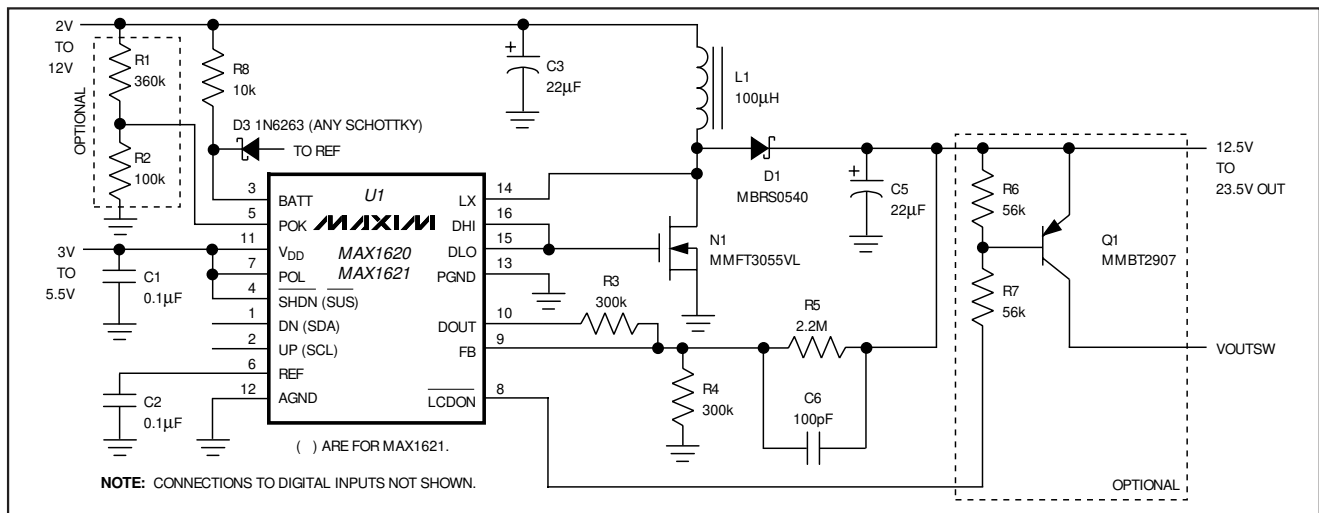

Figure 4. Typical Operating Circuit—Positive Output
To select a positive output voltage, tie the polarity pin (POL) to V_{DD} and use the typical boost topology shown in Figure 4. FB regulation voltage is 1.5V. For optimum stability, V_{OUT} should be greater than 1.1 (V_{BATT}).
To prevent uncontrolled boosting when the output is disconnected, the feedback resistors must sense the boosted voltage rather than the output of the \overline{LCDON} switch (Figure 4).
Separate voltage sources can supply the inductor (L1) and the IC (V_{DD}). This allows operation from low-voltage batteries as well as high-voltage sources because chip bias (150 μ A) is provided by a logic supply (3V to 5.5V) while output power is sourced directly from the battery to L1. Conversely, L1 and V_{DD} can also be supplied from one supply if it remains with V_{DD} 's operating limits (3V to 5.5V). If L1 and V_{DD} are fed from the same voltage, D3 and R8 (Figures 4, 5, 6, and 10) can be omitted, and BATT may be connected directly to V_{DD} .
The minimum output voltage is set with a resistor-divider (R4-R5, Figure 4) from V_{OUT} to AGND. The FB threshold voltage is 1.5V. Choose R4 to be 300k Ω so that the current in the divider is about 5 μA . Determine R5 as follows:
The DAC is adjustable from 0V to 1.5V in 32 steps, and 1LSB = 1.5V / 31. DAC adjustment of V_{OUT} is provided by adding R_3 to the divider circuit (Figure 4). Be sure that $V_{OUT,MAX}$ does not exceed the LCD panel rating.
- 3) As an input sensing output cutoff for positive outputs. Connect POK to a voltage divider to sense the input voltage. The output is switched on only when the input reaches the set level (Figure 4).
To control the open-drain output \overline{LCDON} by sensing the input voltage, connect a resistor-divider (R_1 - R_2 , Figure 4) from V_{BATT} to POK. Choose $R_2 = 100k$. For example, if the minimum battery voltage is 5.3V, determine R_1 as follows: